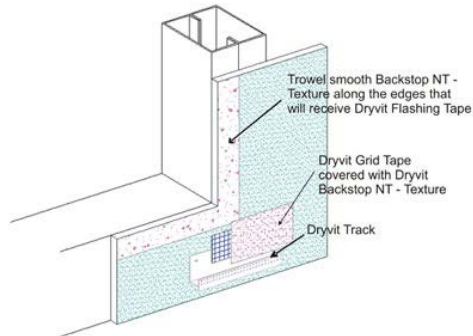

Figure 18
- d) While the Backstop NT - Texture is still wet, using a trowel or spatula, smooth out the Backstop NT - Texture around all window and door perimeters and other areas that will later receive Dryvit Flashing Tape - Figure 18.
- d) While Backstop NT - Texture is still wet, using a trowel or spatula, smooth out the Backstop NT - Texture around all window and door perimeters and other areas that will later receive Dryvit Flashing Tape – Figure 18.